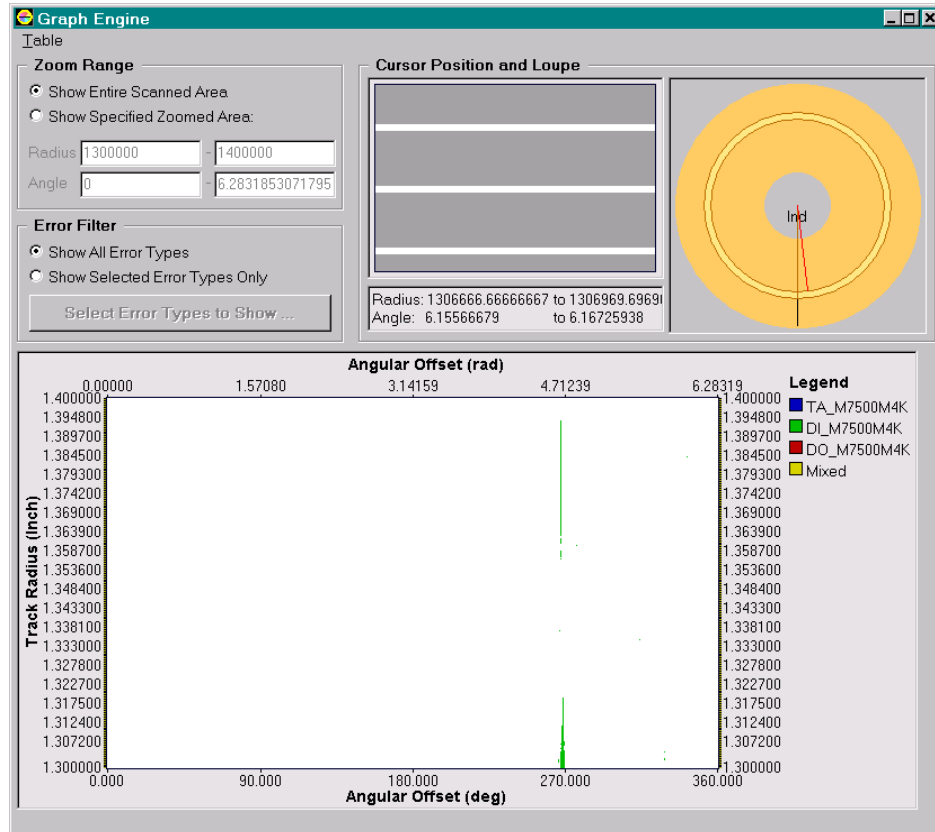

Figure 2: Graph Engine Dialog Box
- The **Graph Engine** dialog box (see Figure 2) shows a map of the detected defects and allows you to zoom in and zoom out at any location on the scanned tracks for the desired level of details when browsing the defects on the media.